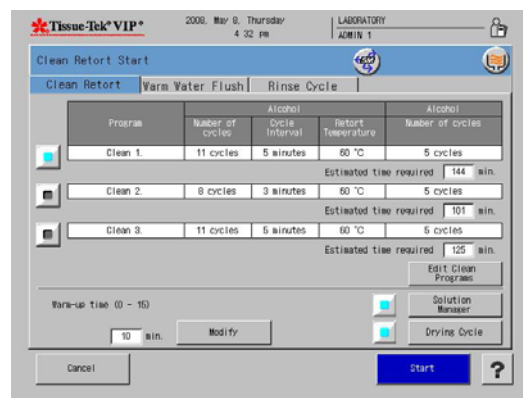

Figure 3-PPP
- The Cleaning screen displays (Figure 3-PPP).